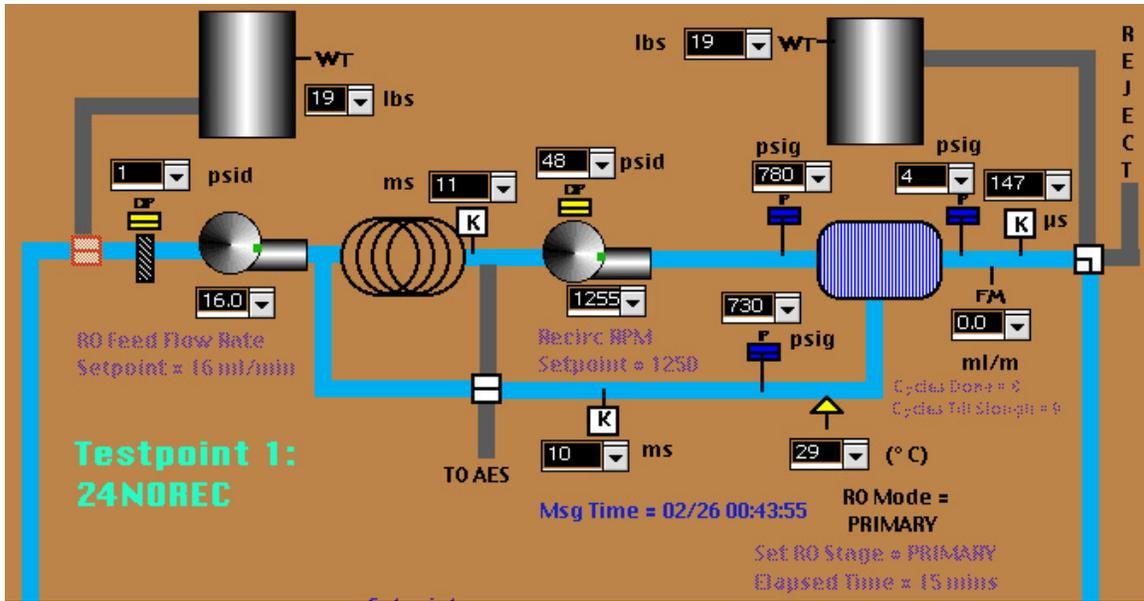

Figure 3 The RO Schematic
The reverse osmosis (RO) system is the lynchpin subsystem since it pulls water from the GLS of the BWP, and delivers permeate to the PPS and brine to the AES. The RO removes inorganic compounds by pushing the input water at high pressure through tubular membranes (the cross-hatched rectangular icon in Figure 3) that act like molecular sieves with clean water (permeate) passing through to the PPS, and dirty water (reject or retentate) continuing around an internal water loop. The RO must go through up to four distinct phases in each cycle. The primary phase draws water into a coiled section of pipe that acts like a reservoir, while processing permeate in the outer loop of pipes. In the secondary phase, the rejected water is concentrated into brine in the inner loop of pipes. The usual third phase is to purge the brine to the AES. But periodically the membrane needs to be cleaned of particulates that collect on its surface by running the water counterclockwise in the inner loop during what is known as the slough phase.
The RO recirculation pump (the pump in the middle of Figure 3) runs continuously except during the purge mode and the slough mode. Its nominal speed is 1250 rpm. There is one feedback data item but besides the speed (p07\_o1) there are two additional commanded values sent via relays -- the commanded speed, an on/off command (p07\_o2, where 0 is on and 1 is off), and a direction (p07\_o3, where 1 is forward and 0 is reverse).